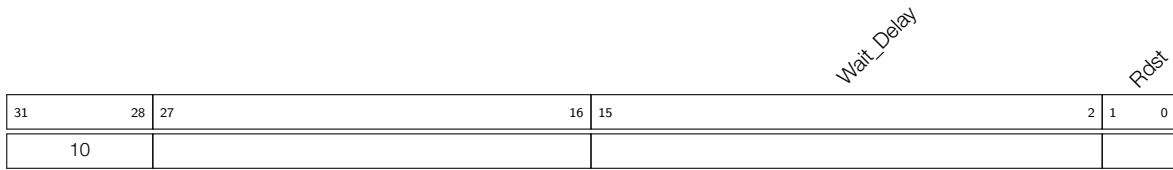

Figure 1-22. Instruction Type - TSENS
- Operand** **Description** - see Figure 1-22